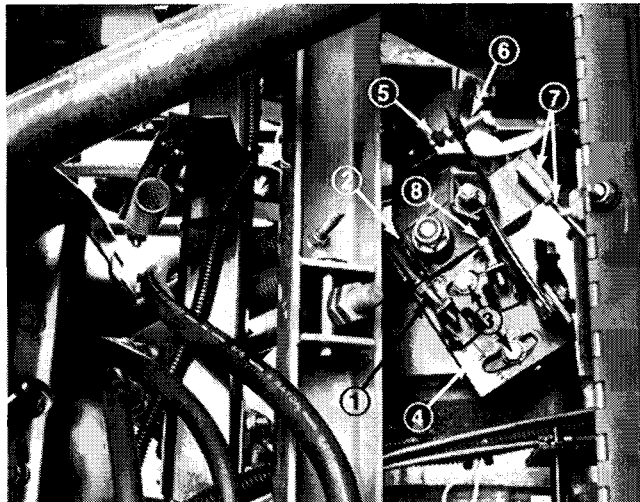

Figure 24
3. Loosen two capscrews securing traction plate so plate is free to move (Fig. 24).
4. Start engine and rotate traction plate (Fig. 24) in either direction until wheel ceases rotation.
5. Stop engine and tighten capscrews to secure traction plate (Fig. 24).
8. Adjust traction cable or ball joints (Fig. 24) as required to attain a 4.00" $\pm$.25" dimension from tip of traction pedal to footrest, when pedal is in neutral position.
9. Loosen jam nut on rear stop screw and thread screw into bracket (Fig. 24).
10. Depress front of traction pedal, rotating traction lever (Fig. 24) counterclockwise, until lever stops. While holding pedal down, back out stop screw until it contacts traction lever, then back out screw two additional turns. Tighten jam nut.
11. Loosen jam nut on front stop screw and thread screw into bracket (Fig. 24).
12. Depress rear of traction pedal, rotating traction lever (Fig. 24) clockwise, until lever stops. While holding pedal down, back out stop screw until it contacts traction lever, then back it out two additional turns. Tighten jam nut.